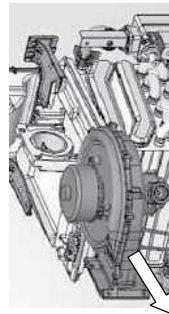

Figure 5
- 5) Detach Fan Motor and Venturi assembly (Figure 5).